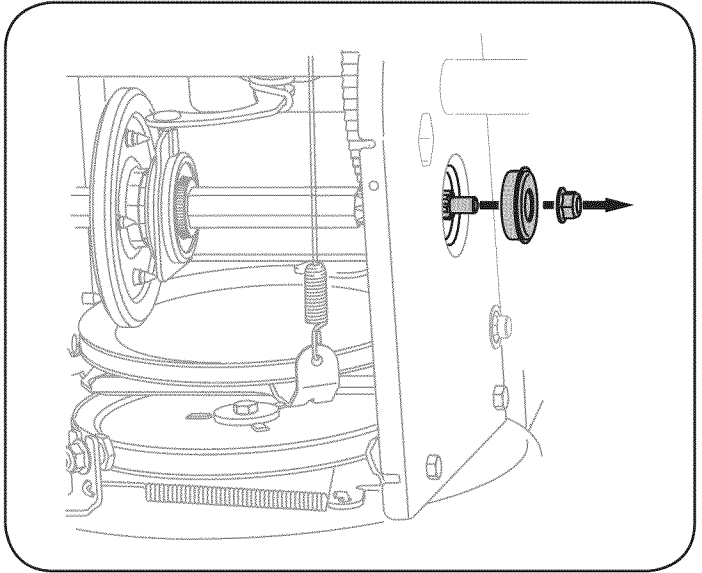

Figure 33
- Carefully remove the hex nut and washer which secures the hex shaft to the snow thrower frame and lightly tap the shaft's end to dislodge the ball bearing from the right side of the frame. See Figure 33.